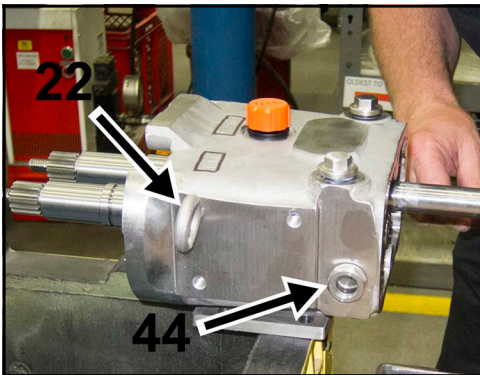

Figure 221 - Install sight glass and eye bolts
3. Install the eye bolts (22) and sight glass (44) as shown in Figure 221.